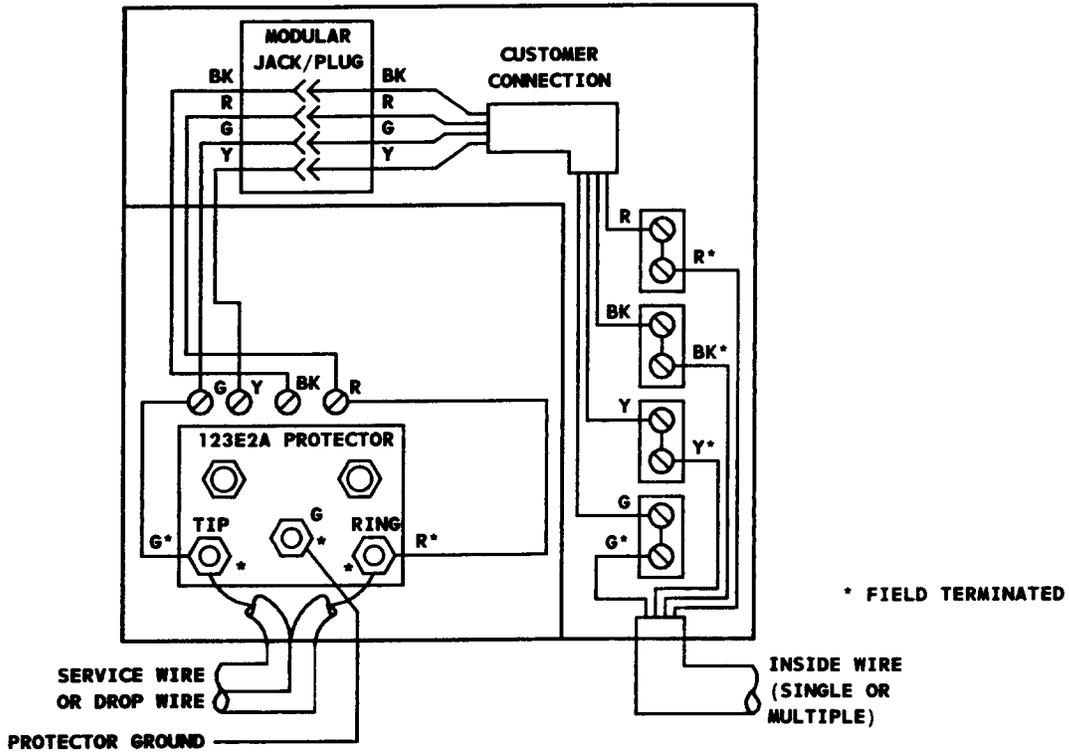

Fig. 3—100A1E-1 NIU—Wiring Diagram
3.02 To wire the 100-type NIUs, disconnect the modular plug from the test jack and terminate the conductors as illustrated in Fig. 3 through 7 for the appropriate NIU.